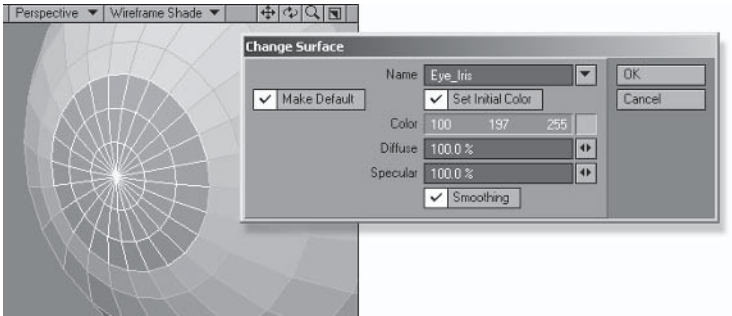

Figure 5.3-133. Iris surface.
7. Select the front three segments and **Change Surface** to **Eye_Iris** using the settings shown in Figure 5.3-133.